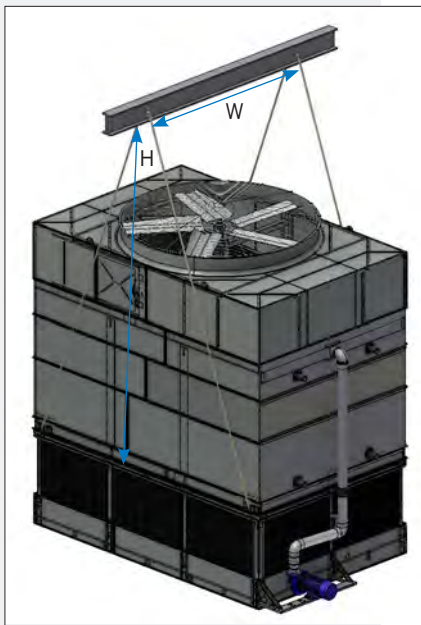
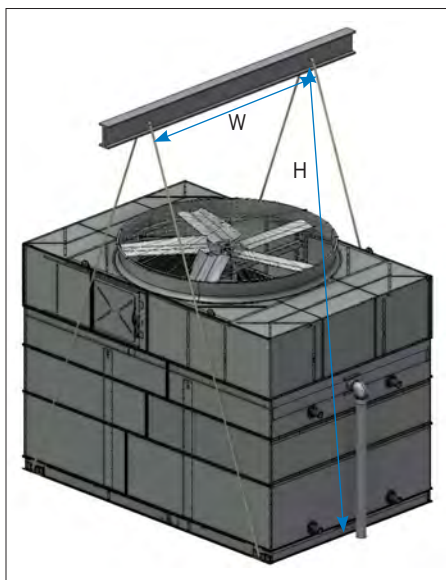

Figure 1. Single-Piece Lift
Figure 2. Upper Section Two-Piece Lift (Casing and Mechanical)
The maximum permissible lift point width “W” should be no more than 1’ of listed value. All standard single cell PFi and PCC products (including models with the optional heavy gauge coil) are designed to be lifted in one assembled piece as shown in **Figure 1**. A two-piece lift is shown in **Figures 2 and 3**. All sections, with the exception of the lower section, require the use of a spreader bar. The distance between the spreader bar lifting points must be equivalent to the width between the unit lifting ears.
1. **Figures 2 and 3** show the proper rigging of sections for units that ship in two pieces.